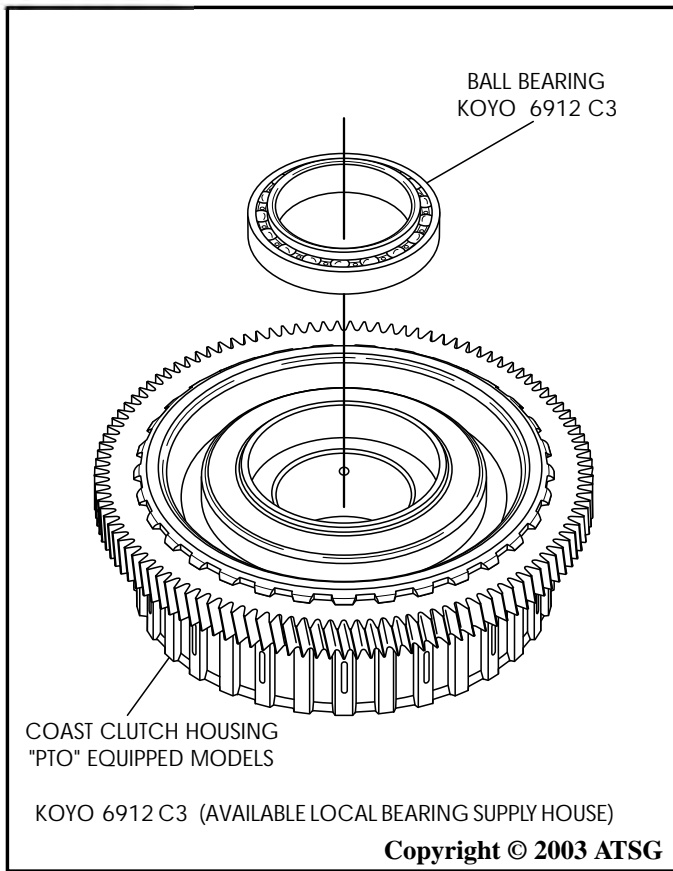

Figure 150
5. Replace the ball bearing as necessary using the proper pullers and press (See Figure 150).